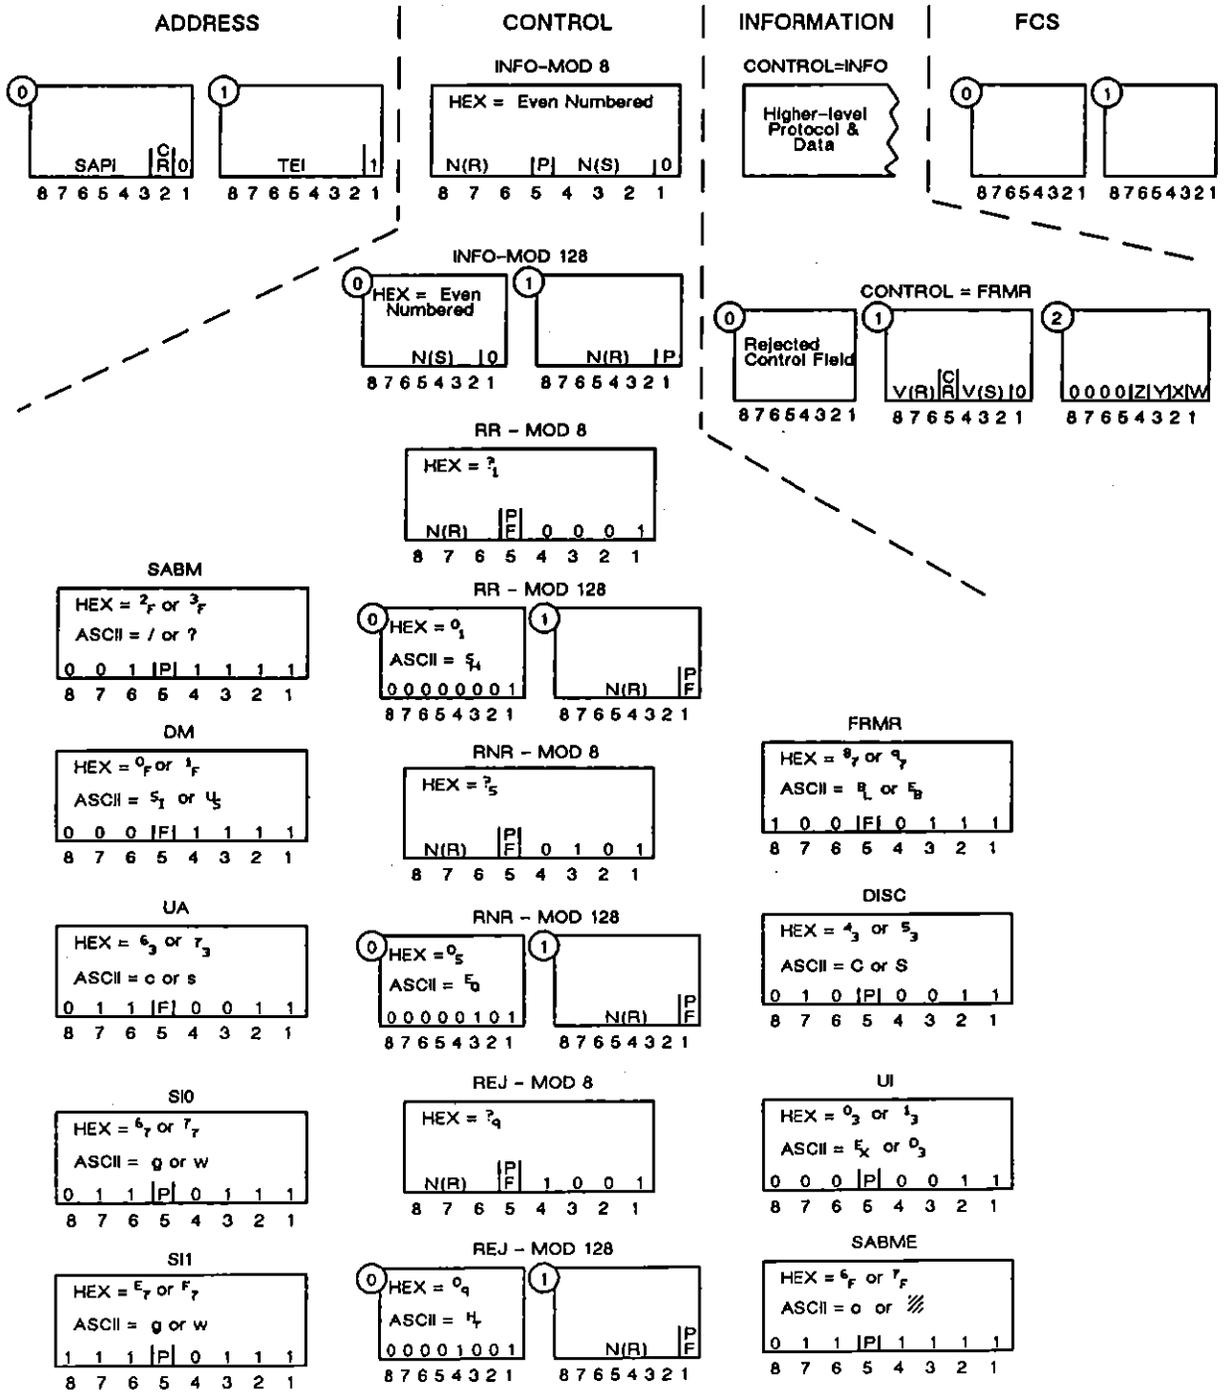

Figure 42-4 Frame fields in LAPD.
MOD 8 uses sequence numbers 0–7. MOD 128 adds an extra byte to the control field in INFO, RR, RNR, and REJ frames. See Figure 42-4. This extra byte allows sequence numbers in a range of 0–127.
2. *SAPI.* The Service Access Point Identifier (SAPI) is given in the next column. The SAPI is a network link-station address that appears in a six-bit field in the first frame-address byte: see Figure 42-4.
3. *TEI.* The Terminal Endpoint Identifier (TEI) is the address of a link station on the user side. It occupies seven bits in the second frame byte inside the leading flag (see Figure 42-4).
5. *Type*. The mnemonic (abbreviated) names for thirteen frame types as they appear in the TYPE column of the protocol trace are shown in Figure 42-4 under "CONTROL." The control field, therefore, indicates the frame type. If a control octet does not fit any of the patterns in the figure, the frame is listed in the TYPE column as UNKWN followed by the hexadecimal value of the control byte: UNKWN=47.
6. *N(R) and N(S)*. One column on the frame-level trace is devoted to N(R) values, and one column to N(S). The frame types that include N(R) or N(S) fields in their control fields are indicated in Figure 42-4. N(R) and N(S) occupy three bits each in modulo 8, seven bits each in modulo 128.
7. *P and F*. The status of the poll or the final bit is given in the P/F column. Whether this bit is the P or F bit is indicated for most frame types in Figure 42-4 (under "CONTROL").
1. *Info frames.* INFO frames differ for MOD 8 and MOD 128 numbering schemes. (See Figure 42-4.) For spreadsheet conditions to match I-frames accurately, the correct numbering system (Mode of Operation) should be selected on the LAPD Frame Level Setup screen.
2. *Supervisory frames.* The three supervisory-frame types that can be searched for on the data leads are RR (Receive Ready), RNR (Receive Not Ready), and REJECT. These frames always contain N(R) fields (see Figure 42-4) and serve mainly to acknowledge or reject INFO frames.
4. *Sequenced information frames.* Sequenced information frames (SI0 and SI1) have a 1-bit sequence-numbering field that toggles 0 (SI0) and 1 (SI1). (See Figure 42-4.) These frames are used instead of INFO frames in MOD 2 operation where the limit for outstanding information frames is 1.